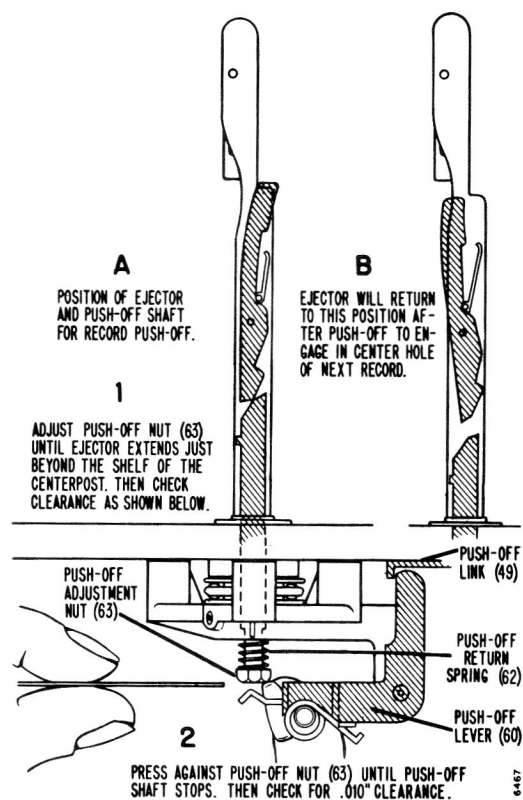

Figure 7. Adjusting for Correct Push-off.
When the tone arm is clear of the turntable, the roller on the drive eccentric (91) engages the push-off link (49). The push-off link moves the push-off lever (60), which in turn engages the safety spring (61) with the push-off adjustment nut (63) on the end of the push-off shaft in the centerpost. As the push-off link (49) is moved by the drive eccentric, the push-off lever (60) causes the safety spring (61) to move the push-off shaft up into the centerpost. The push-off shaft engages the ejector and pushes it up and out at the shelf of the centerpost. See figure 7.
Ejector travel is adjusted by the hexagonal adjustment nut (63). With proper push-off adjustment, the ejector should extend just slightly beyond the edge of the shelf on the centerpost. See figure 7.
2. Continue rotating turntable slowly until the roller on the drive eccentric (91) engages the push-off link (49). Rotate the turntable until the roller has moved the link its full distance. The push-off lever (60) is now extended its maximum travel.
of the shelf. See figure 7. If the ejector does not extend beyond the edge of the shelf, turn the push-off adjustment nut (63) counterclockwise to increase the amount of push-off. Use a $\frac{1}{4}$ " open-end wrench for this adjustment.
4. Press the hexagonal adjustment nut (63) to check for additional travel before the push-off shaft stops. The ejector should move out past the shelf slightly more than necessary for push-off before it stops.
5. Slide a 10 thousandths of an inch (.010) feeler gauge between the flat surface of the adjustment nut (63) and the safety spring (61) to check, and adjust until gauge passes freely.
2. Check for weak push-off return spring (62).
3. Check the push-off adjustment. See figure 7.
2. Be sure push-off adjustment has proper clearance. See figure 7.